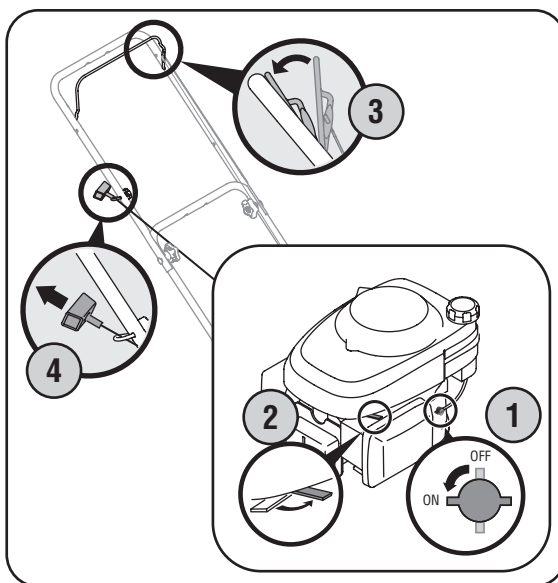

Figure 4-3
1. Place the fuel valve lever found on the left side of the engine into the ON (OPEN) position. See Figure 4-3.
4. Holding these two handles together firmly, grasp recoil starter handle and pull rope out with a rapid, continuous, full arm stroke. See Figure 4-3. Keeping a firm grip on the starter handle let the rope rewind slowly. Repeat until engine cranks. Let the rope rewind each time slowly.